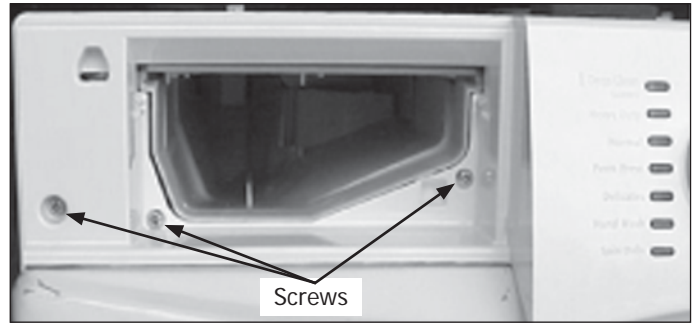

Figure 4-20.
3. Remove the (3) screws behind the detergent drawer panel. (See Figure 4-20)